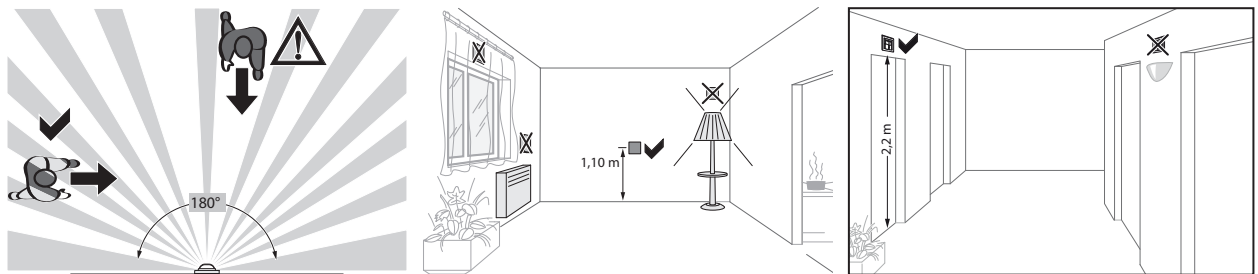

Fig 4: Installation location of the motion detectors
- i** Observe the motion orientation: a distinction is made between "direct approach" and "transverse motion". Motions transverse to the motion detector can be detected better than motions toward the motion detector (Fig. 4).
- Avoid sources of interference in the detection area. Sources of interference, e.g. heating elements, ventilation systems, air conditioners and lamps that are cooling down can cause undesired switching (Fig. 4).